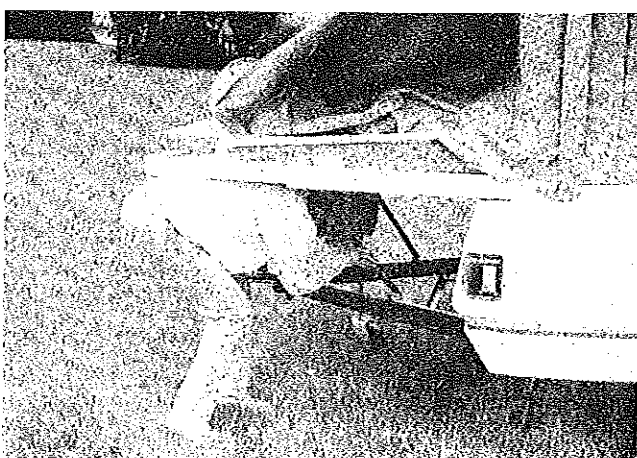

FIGURE 11
17. Kneel down beneath the side of the fully extended bed. Pull down and swivel the bed support tubes from their travel positions. Lift the bed slightly while placing the free end of the bed support tube over the support peg. Perform same procedure for the rear bed. See Figure 11.